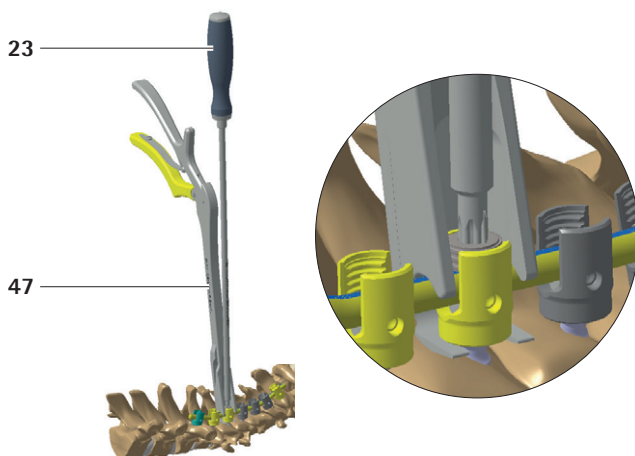

Fig. 37
- ▶ While the rod persuader is applied, insert the set screw through the working end with the set screw inserter **22** (SZ068R) or **23** (SZ069R), see Fig. 37.